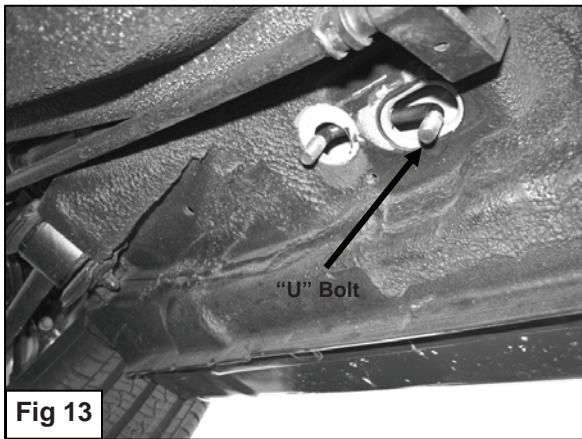
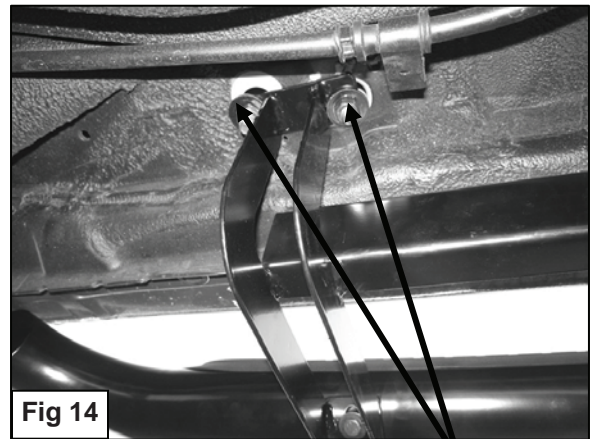

Fig 13
Fig 14
16. Insert one of the included "U" Bolts through oval shape hole and round hole (**Figure 13**). Partially hang rear Mounting Bracket to already inserted "U" Bolt using the included (2) 10mm Hex Nuts, (2) 10mm Lock Washers, and (2) 10mm Flat Washers (**Figure 14**).